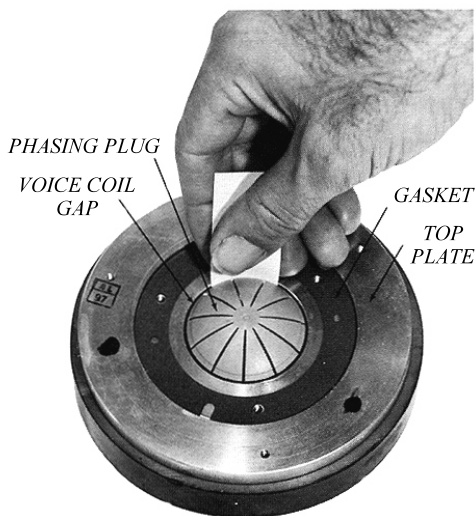

Figure 5. Cleaning The Voice Coil Gap
7. Clean foreign material from voice coil gap with a short strip of masking tape one-inch wide. Fold tape back to form a strip with adhesive exposed on both sides. Insert edges of folded tape into voice coil gap to full depth, and wipe clean completely around circular perimeter of phasing plug and top plate (see Figure 5). Repeat cleaning procedure several times with fresh tape until tape is clean when withdrawn.